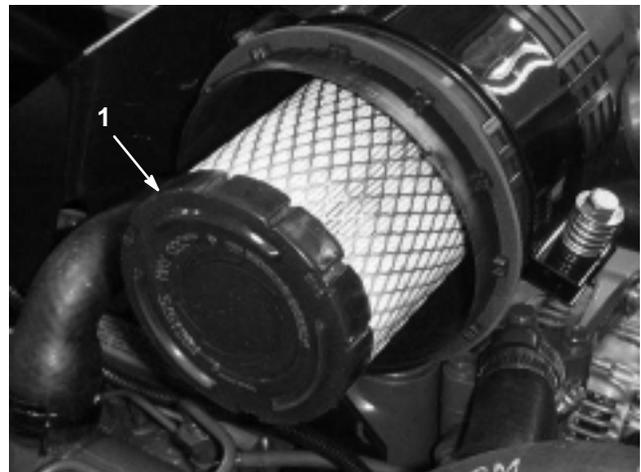

Figure 43
3. Remove and replace the primary filter (Fig. 43). Cleaning of the used element is not recommended due to the possibility of damage to the filter media. Inspect the new filter for shipping damage, checking the sealing end of the filter and the body. Do not use a damaged element. Insert the new filter by applying pressure to the outer rim of the element to seat it in the canister. Do not apply pressure to the flexible center of the filter.